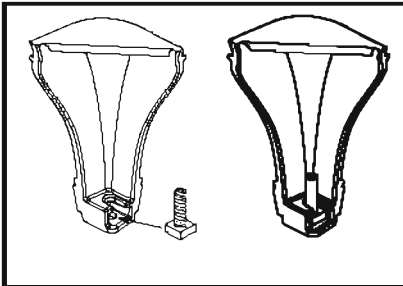
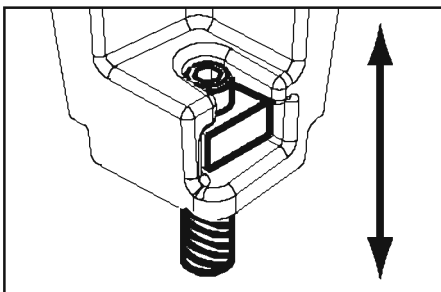

Figure 20.2
Figure 20.3 - Bolt fully extended
2. Slide assembled nuts and bolts into slots on legs with the nuts on the bottom. **Figure 20.2.** Use a 5/32 in. (3.96mm) Allen wrench to adjust legs up and down to desired level. **Figure 20.3.**